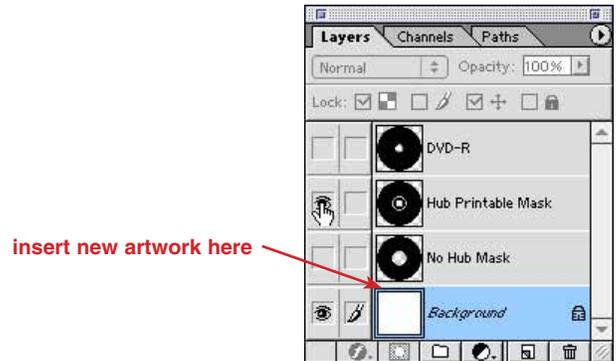

figure 2.
- 4.) We then add our artwork in layers between the "Background" layer and the mask layers (figure 2.)